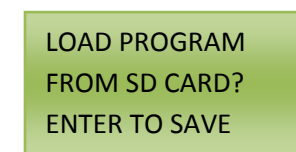

Figure 12.3
- a. Backed up data that is stored on the SD Card can be loaded onto the Time-Keeper® if something were to happen. To Load from the SD Card, press ENTER on the keypad. See Figure 12.3 for a visual example.